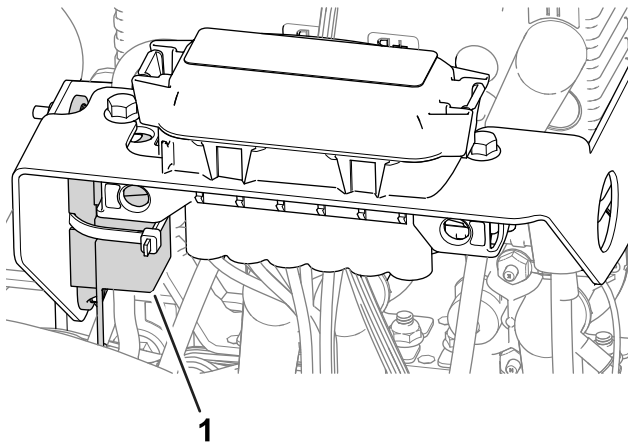

Figure 48
- The fuse for the left wheel motor (60 A) is located under the cover on the left side of the machine, near the reel-drive-circuit fuses (Figure 48).